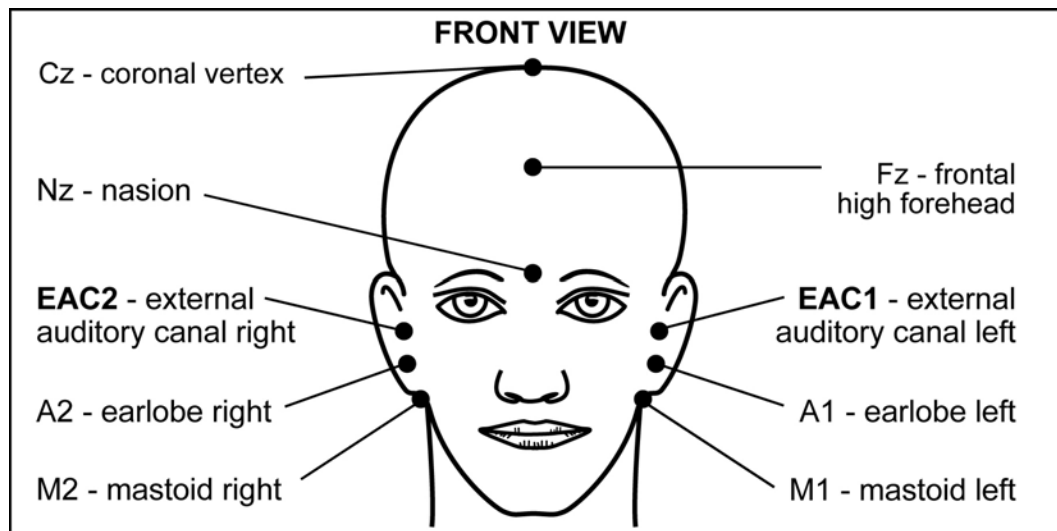

Figure 61 Typical electrode placement diagram - front view
The following electrode placement configurations are recommended for the Amplitrode®, which is optimized for a single-channel recording (Figure 61).
7. Remove the single-use snap electrode pads from the plastic base and paste them on the prepared areas of the patient's skin. Refer to Figure 61 for details on the recommended locations of the electrodes.